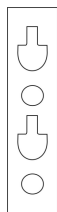

Fig. 1
- (1) Removing drilling template from package. Determine the width of pool's top rail, and cut template on the appropriate dotted line.
- (2) Align drilling template with top of any pool upright, directly underneath top rail cap. Using a nonpermanent magic marker, mark the two spots labeled "drill here".
- (3) Repeat step (2) for each upright.
- (4) Drill through marked spots into each upright.
- (5) Place a bracket onto the first drilled upright, with round screw hole on the bottom, and keyhole for hook at the top. (*See Fig. 1*). Use the stainless steel screws provided to attach bracket to upright. For best results, use a drill with speed control to prevent over-tightening of screws.
- (6) Repeat step (5) with remaining brackets and screws, attaching one bracket to each upright with the provided screws.
- (7) Unfold the Water Warden™ Safety Net and spread over top of the pool. Proceed around the pool and clip each hook into its respective bracket.
- (8) Locate tensioning device at center of Water Warden™ Safety Net. The Tensioning Cord is pre-threaded through the pulley system. The ends of the Tensioning Cord are tied to the edges of the Water Warden™ Safety Net. Untie the ends of the Tensioning Cord. Make sure that the two ends of the cord cross one another at an angle of 90°. Attach one Tensioning Cord hook into the closest bracket (use second keyhole on the bracket to fasten this hook). Pull opposite end of the Tensioning Cord taut, and clip the second tensioning hook into its closest bracket. This should provide even tension for the Water Warden™ Safety Net System, to keep the Water Warden™ Safety Net suspended well above the water line.